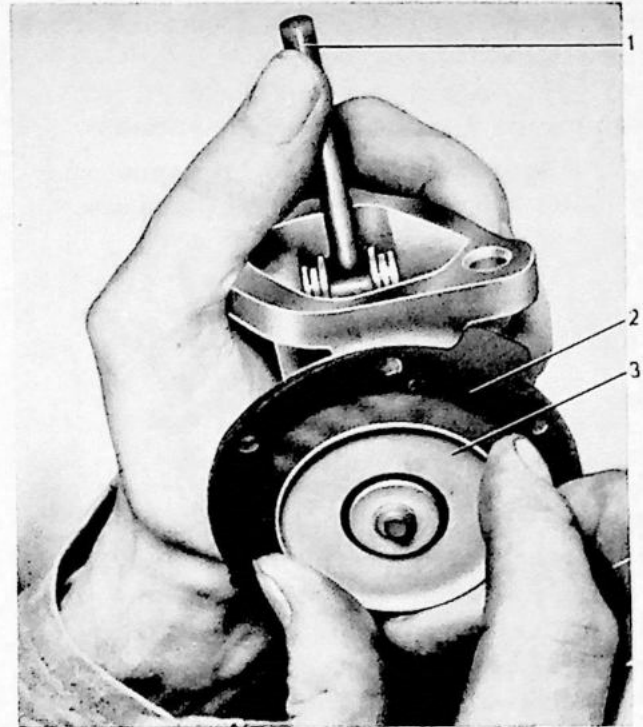

Fig. 100.
2. Take the lower half in the left hand as shown in Fig. 100, and press rocker arm (1) with left thumb. Depress washer (3) with right hand thumb, rotate washer one-quarter turn, and remove washer, diaphragm (2), and pull rod.